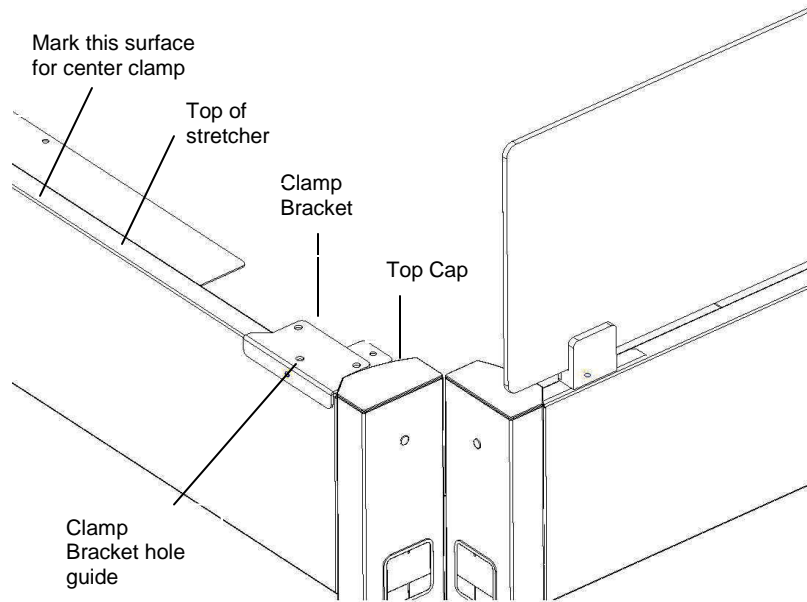

Figure 1. Pilot hole view
1. Locate the supplied Clamp Brackets (these also serve as drill templates). Place a Clamp Bracket onto the desk's rear stretcher as shown in Figure 1. Butt the contoured edge of the bracket against the desk leg's top cap.